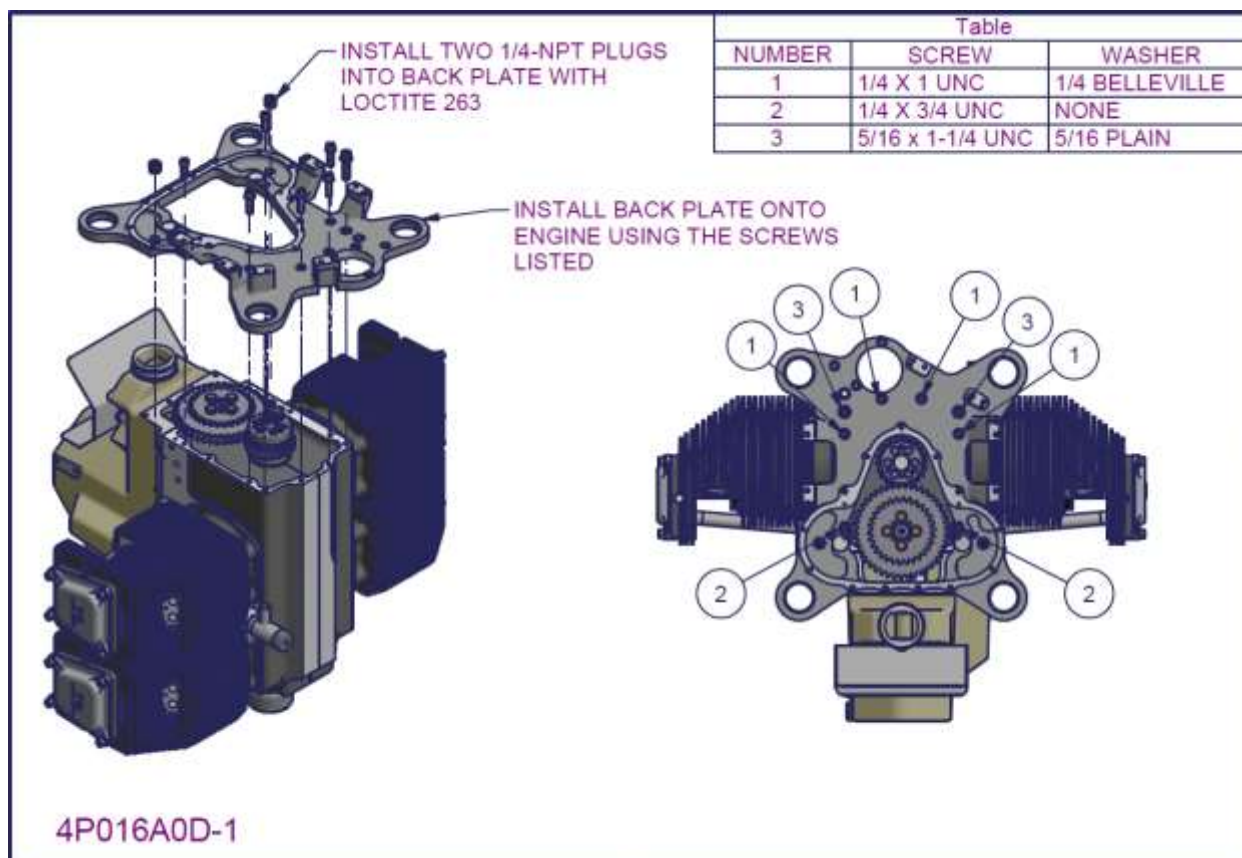

Figure 147 – 2200/3300 back plate and distributor gearbox installation 2
- The required screws and washers used are listing in Figure 147.